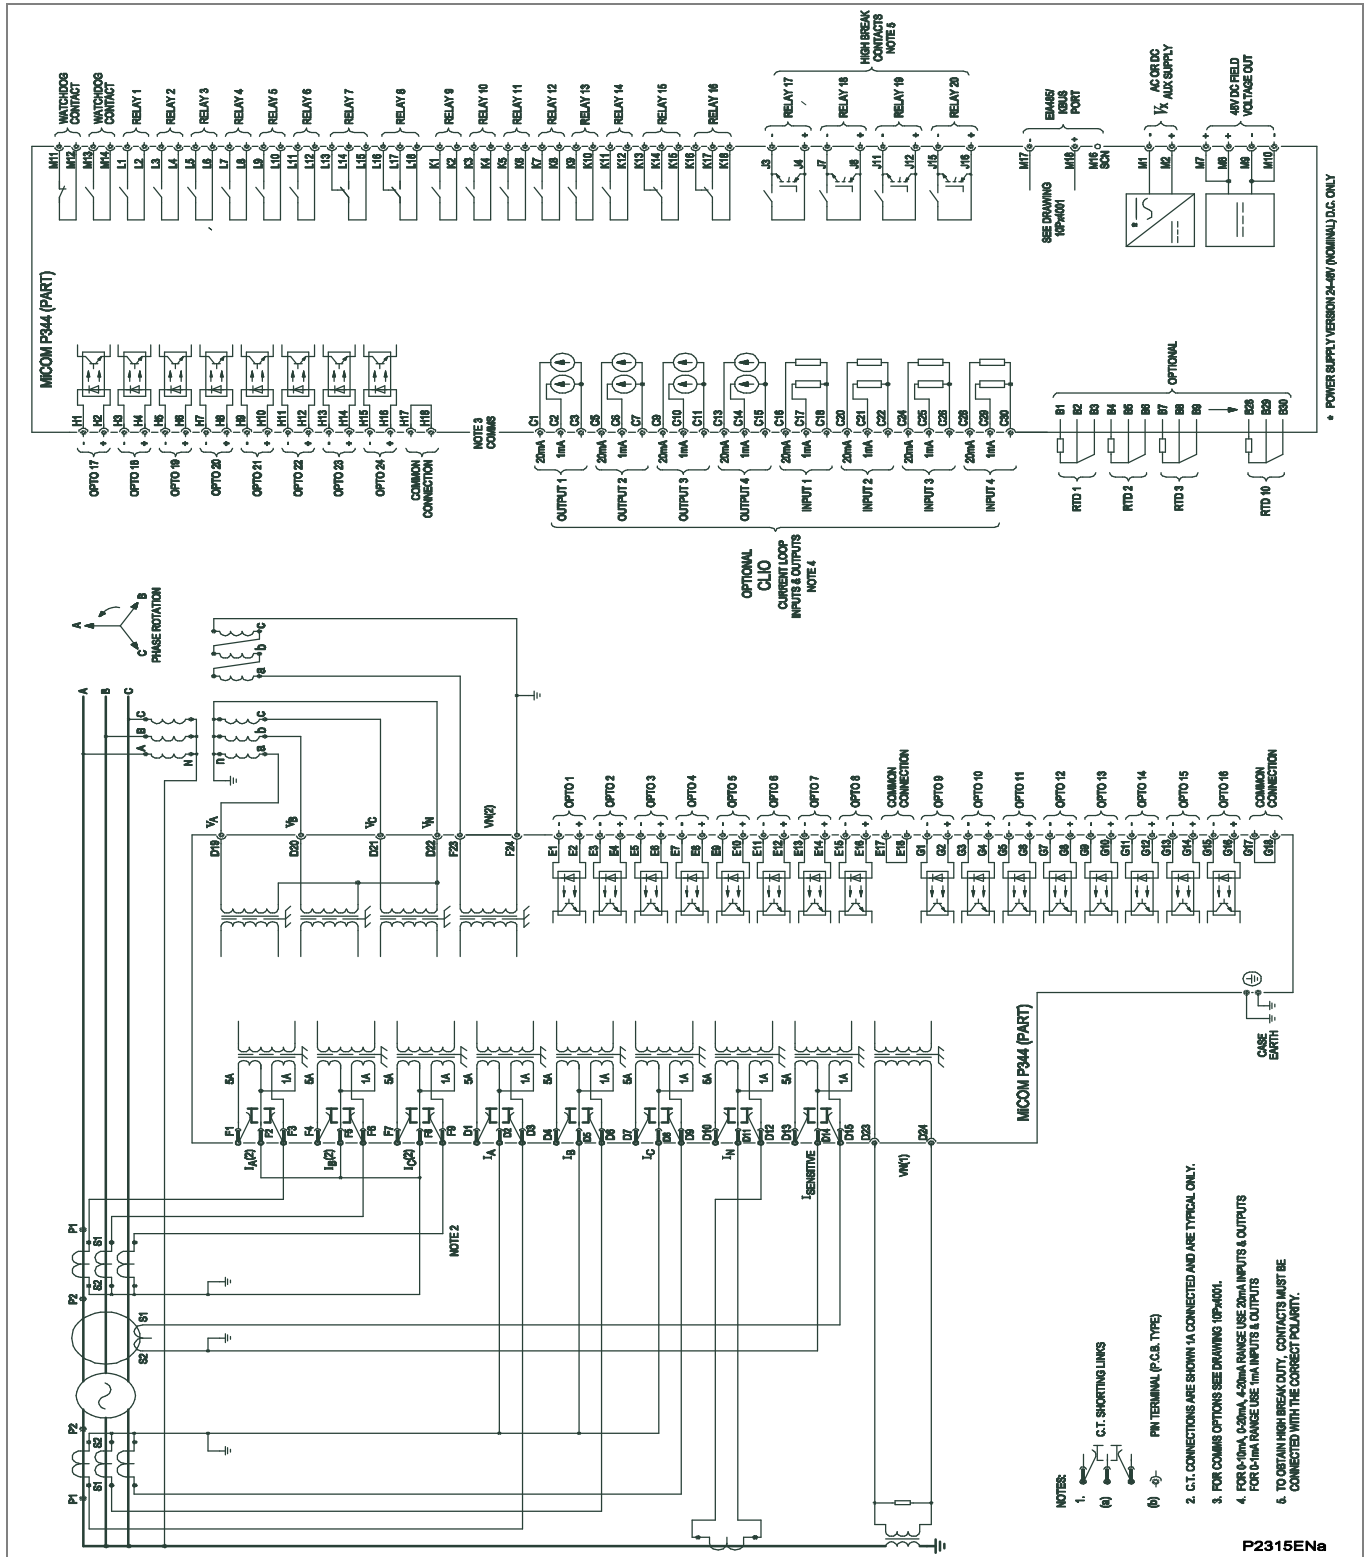

Figure 47 - P344 (80TE) with biased differential and zero sequence voltage interturn (24 I/P & 20 O/P (4HB) & RTD's & CLIO)
- Figure 47 - P344 (80TE) with biased differential and zero sequence voltage interturn (24 I/P & 20 O/P (4HB) & RTD's & CLIO)